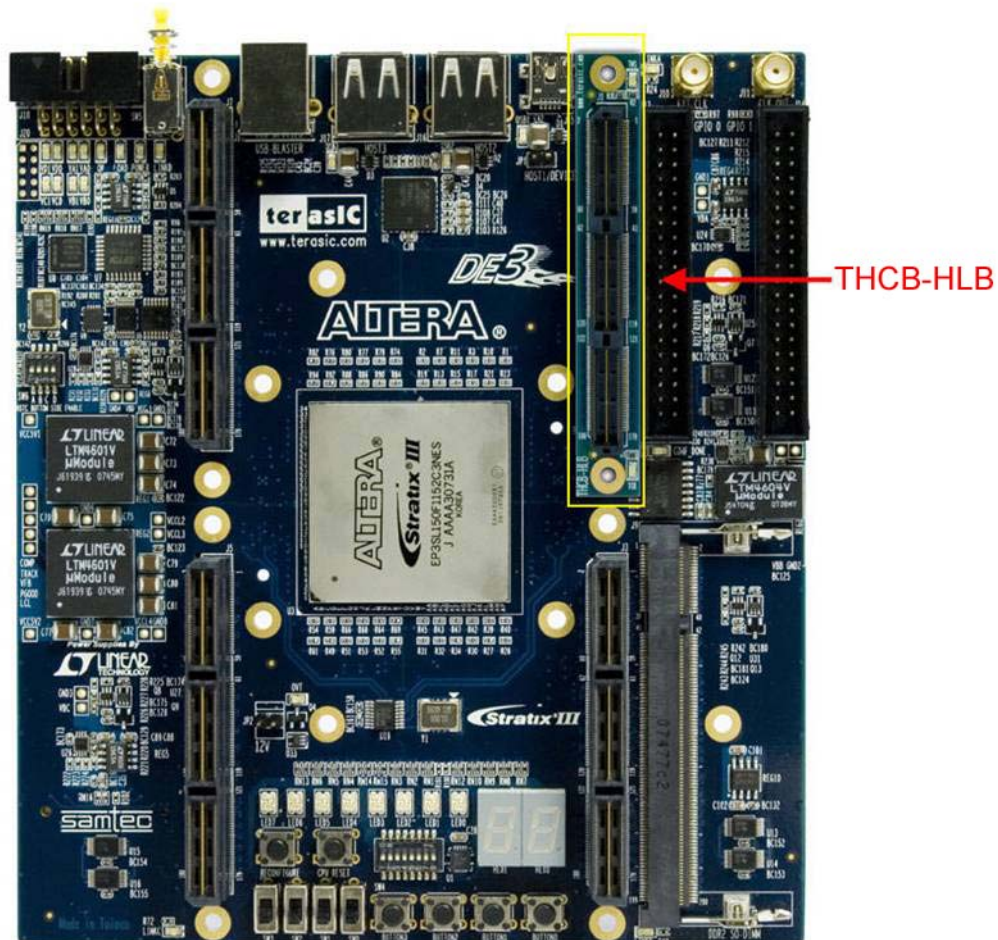

Figure D.2. The connection setup for THCB\_HLB and DE3 board
4. Connect the THCB\_HLB adapter card to the HSTC connector which is needed to be tested as shown in Figure D.2.